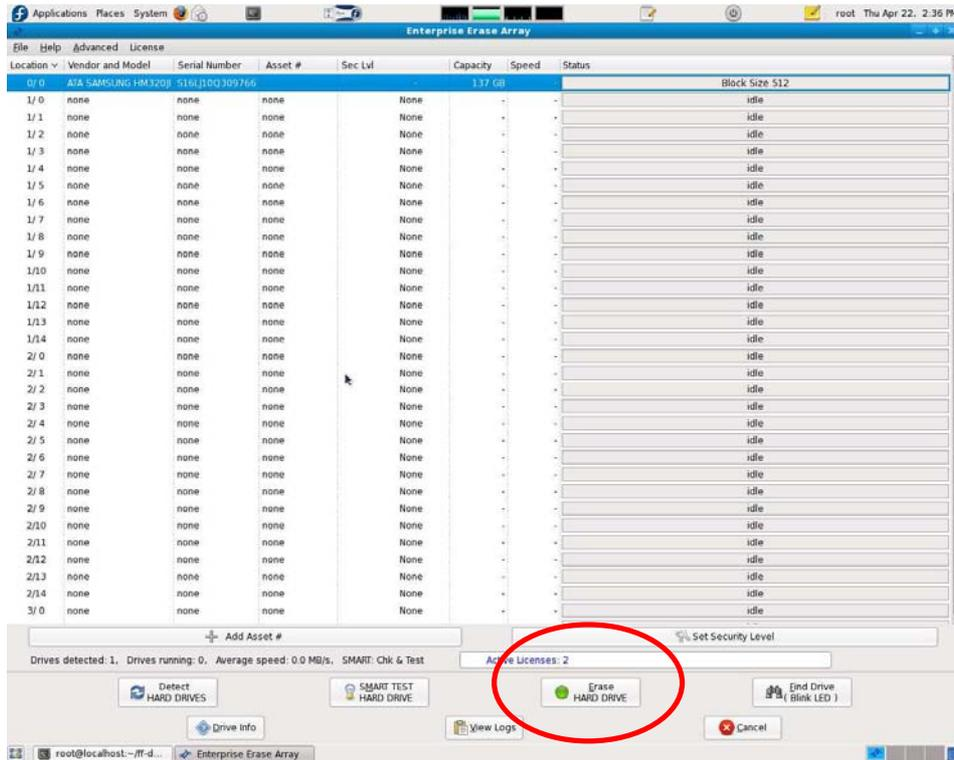

Figure 3.4 – Location of Purge Button on Main User Interface Screen
3.10 To begin the erasure process on the selected drive, press the button at the bottom of the main user interface screen labeled “Erase Hard Drive”. Figure 3.4 shows the location of this button.